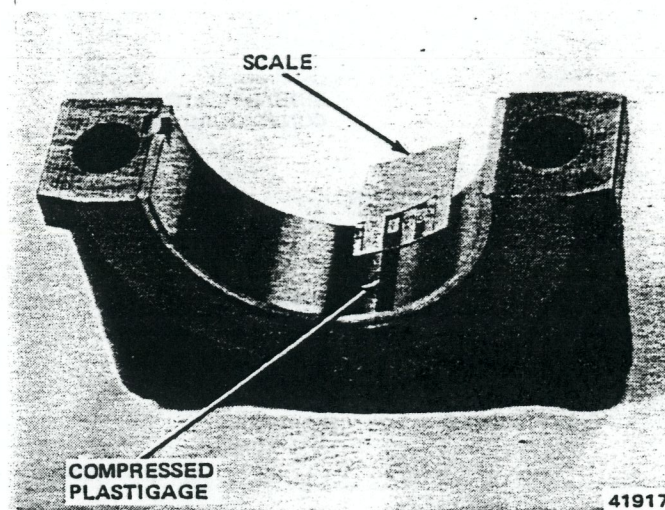

Fig. 1B-38 Measuring Bearing Clearance
(1) With oil pan and oil pump removed and starting with rear main bearing, remove bearing cap and wipe oil from journal and bearing cap.
(2) Place strip of Plastigage on full width of bearing surface area (parallel with crankshaft) on journal.
(3) Install bearing cap and insert. Tighten retaining bolts evenly with 65 foot-pounds (88 N•m) torque.
(4) Remove bearing cap. Flattened Plastigage will be adhering to either bearing insert or journal.
(5) Without removing Plastigage, measure its compressed width (at the widest point) (fig. 1B-38).
(6) If bearing clearance is within specification, bearing inserts are satisfactory. If clearance is not within specification, replace inserts. Always replace both upper and lower inserts as a unit.